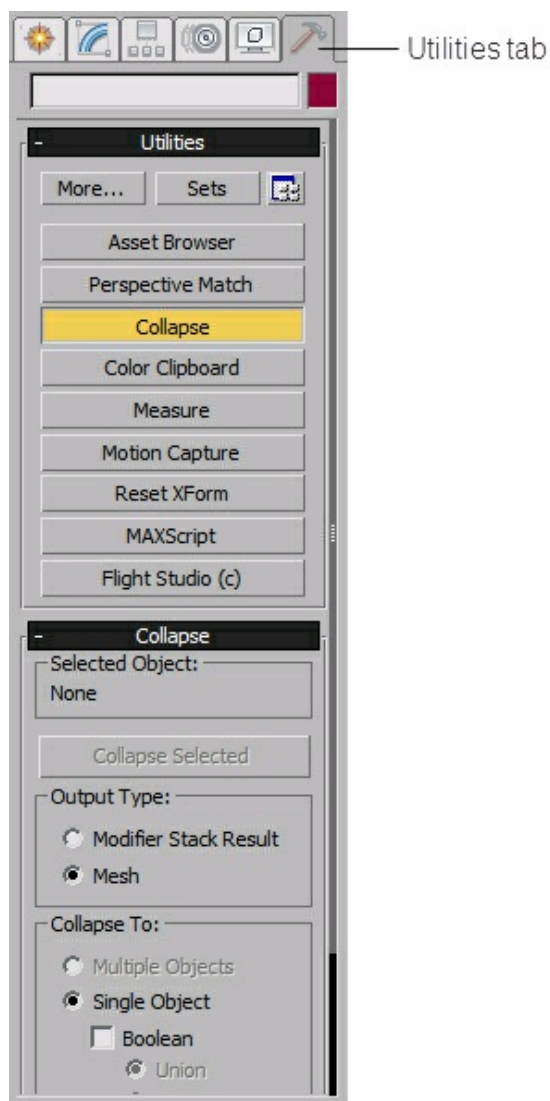

Figure 8-4 The **Utilities** rollout displayed after choosing the **Utilities** tab
3. Create an object and select it in the viewport. Choose the **Utilities** tab in the **Command Panel**; the **Utilities** rollout will be displayed, as shown in Figure 8-4. Choose the **Collapse** button in this rollout; the **Collapse** rollout will be displayed. Choose the **Collapse Selected** button in this rollout; the object will be converted into an editable mesh.